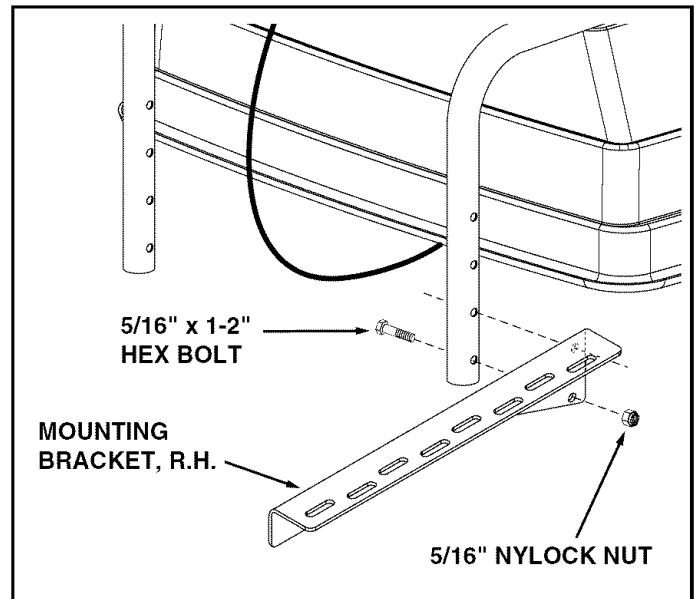

FIGURE 3
NOTE: The top of the hopper should be at least 30" above the ground. The mounting holes shown in figures 3 and 4 will make the top of the hopper even with the vehicle's rear rack. If exhaust blows against spreader, a higher mounting position may help.
5. Attach the R.H. mounting bracket to the frame tube using two 5/16" x 2" hex bolts and 5/16" nylock nuts as shown in figure 3. **Tighten.** Repeat for the L.H. mounting bracket.